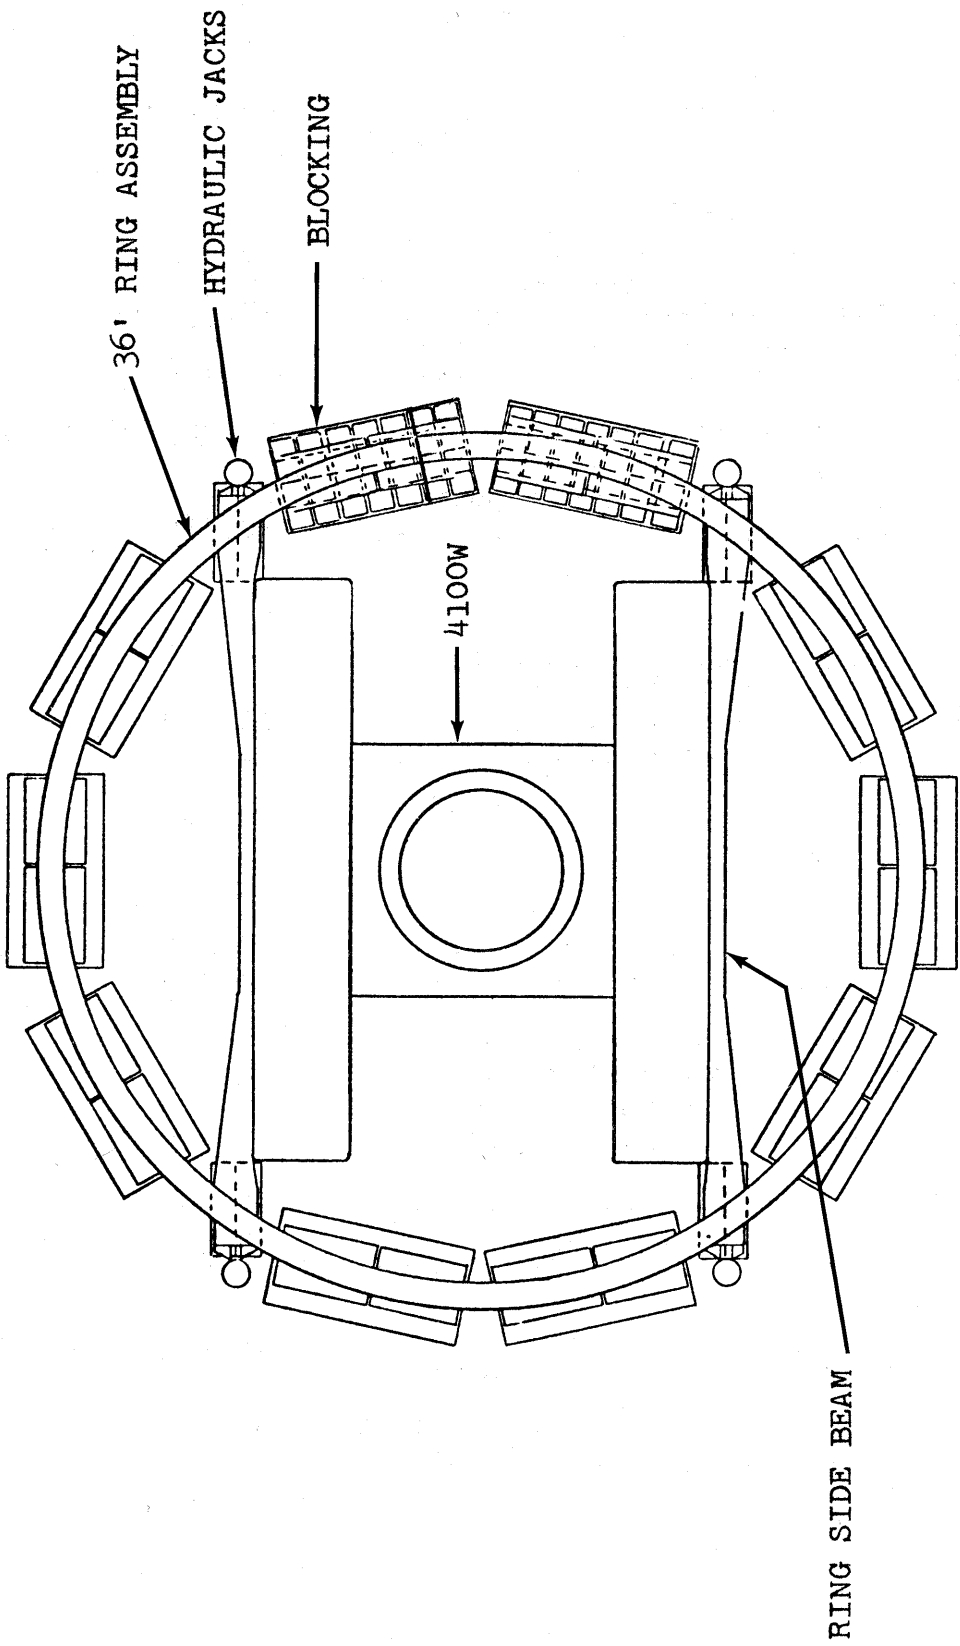

FIG. 1
2. Attach ring side beams with hydraulic jacks to the crawler frames; then install ring side and end segments and attach wear plates. Level ring and install blocking or screw jack support system (see FIG. 1).